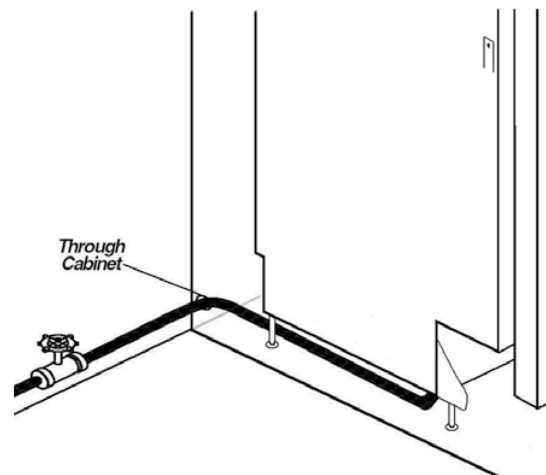

FIG 4
- 3 Determine the amount of tubing needed to connect the hot water supply to the unit's water inlet valve. Copper tubing must have a minimum of 3/8" OD. High-pressure and high-temperature rated plastic tubing with a minimum inner diameter of 1/4" may be used. A shut-off valve installed outside the dishwasher cabinet is recommended. **See Figure 4.**
- 4 Cut water access hole in cabinet as shown in **Figure 4.**